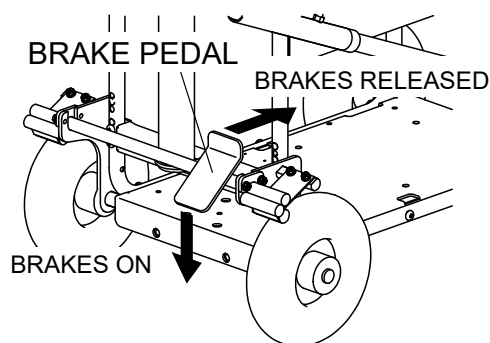

Figure 6. Brake Pedal
3. Step down on the brake pedal to make sure that the cart is locked in place. (Figure 6).